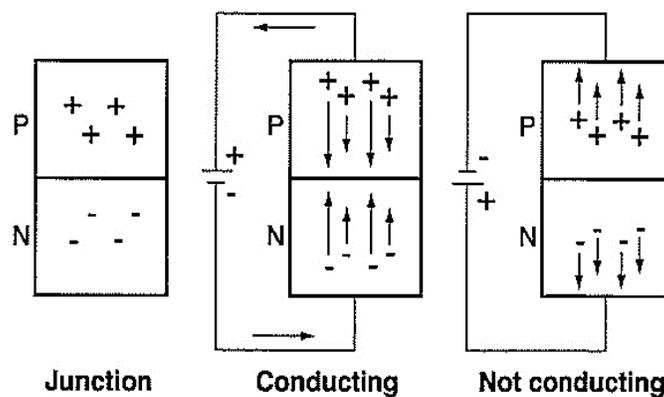

Figure 10.8: Junction Diode
10-51 When a piece of *p-type* material is joined to a piece of *n-type* material, as shown at the left in Figure 10.8, the junction is called a *p-n junction*. This junction can either conduct electricity or not, depending on how the battery is connected.
- If you connect a battery as shown in the center diagram in Figure 10.8 with the *positive* terminal connected to the *p-type* material, a current will flow across the junction and through the external circuit.
- If you reverse the battery connections, so that the *negative* terminal is connected to the *p-type* material, no current will flow. This arrangement is shown at the right in Figure 10.8.
10-52 The electrons are indicated by the *negative* signs in Figure 10.8. When the battery is connected as shown in the center diagram, the electrons are attracted across the junction from the *n-type* material into the *p-type* material. Then they move toward the positive terminal of the battery.
10-53 The holes are indicated by the *positive* signs in Figure 10.8. They are attracted in the opposite direction across the junction by the negative terminal of the battery. With the electrons moving one way across the junction and the holes moving the other way, current flows.
10-54 When the battery is connected in the opposite way, as shown at the right in Figure 10.8, the electrons in the *n-type* material are attracted *away* from the junction, toward the positive terminal of the battery. At the same time, the holes in the *p-type* material are also attracted *away* from the junction, toward the negative terminal of the battery. The material at the junction region then has no current carriers.